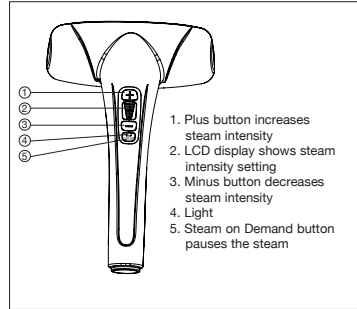

Figure 12
7. After the beep sounds push the Steam on Demand button to turn on the steam. The light glows green. Press the Steam on Demand button to turn off the steam. The light turns off (Figure 12).
8. Once continuous steam emits from the steam nozzle, adjust the pressurized steam settings to the desired intensity. The + button increases the steam intensity. The - button decreases the steam intensity (Figure 12). The default steam intensity is medium setting 4.
10. The Steam on Demand button pauses the steam. This button can be used when repositioning, changing a garment, or during interruptions to prolong steam output (Figure 12).